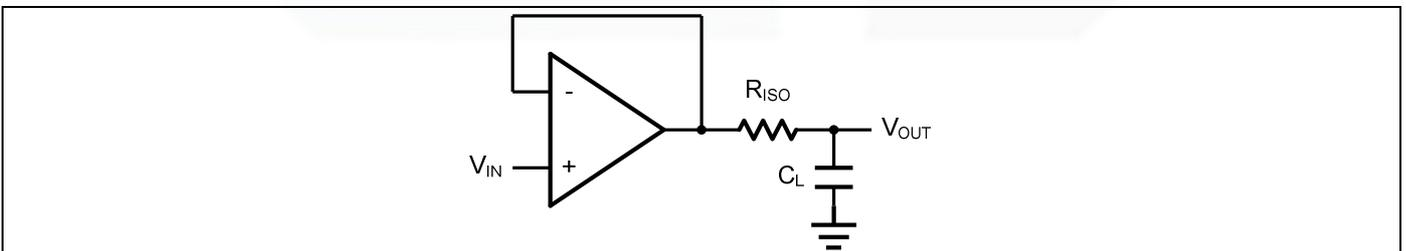
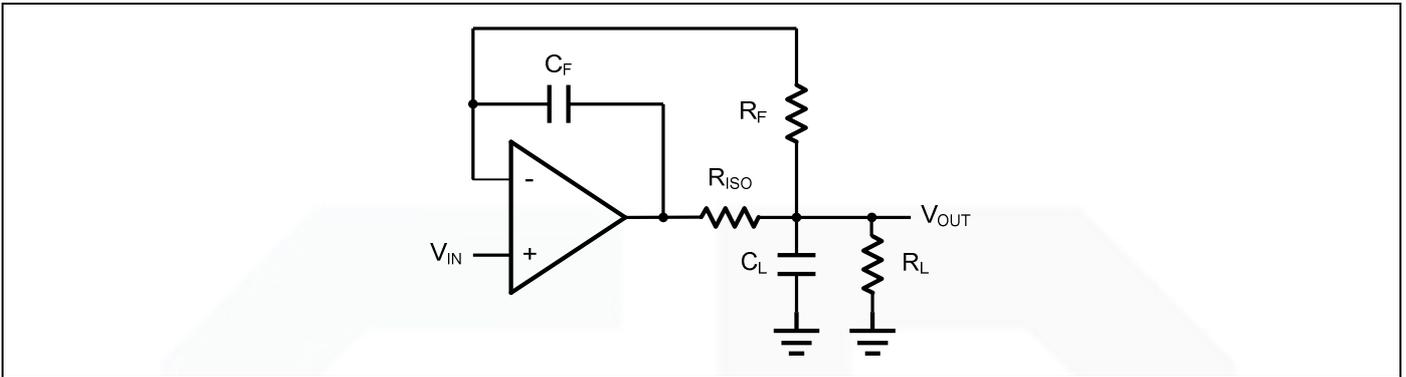

Figure 2. Indirectly Driving a Capacitive Load Using Isolation Resistor
Figure 3. Indirectly Driving a Capacitive Load with DC Accuracy
The GS8358 is optimized for bandwidth and speed, not for driving capacitive loads. Output capacitance will create a pole in the amplifier's feedback path, leading to excessive peaking and potential oscillation. If dealing with load capacitance is a requirement of the application, the two strategies to consider are (1) using a small resistor in series with the amplifier's output and the load capacitance and (2) reducing the bandwidth of the amplifier's feedback loop by increasing the overall noise gain. Figure 2. shows a unity gain follower using the series resistor strategy. The resistor isolates the output from the capacitance and, more importantly, creates a zero in the feedback path that compensates for the pole created by the output capacitance.
The circuit in Figure 3 is an improvement to the one in Figure 2.  $R_F$  provides the DC accuracy by feed-forward the  $V_{IN}$  to  $R_L$ .  $C_F$  and  $R_{ISO}$  serve to counteract the loss of phase margin by feeding the high frequency component of the output signal back to the amplifier's inverting input, thereby preserving the phase margin in the overall feedback loop. Capacitive drive can be increased by increasing the value of  $C_F$ . This in turn will slow down the pulse response.